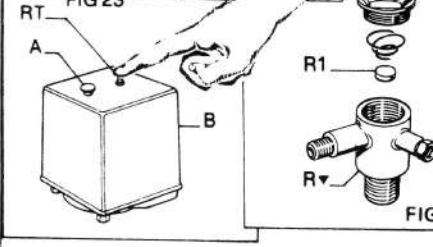

FIG 24
| Air leaks through the pressure switch (B) when the compressor is stoppea. | Non return valve (R) worn or dirty not working properly. | Dismantle the non return valve head (R), clean rubber disc (R1) and/or replace it Reassemble with care (fig. 24). |